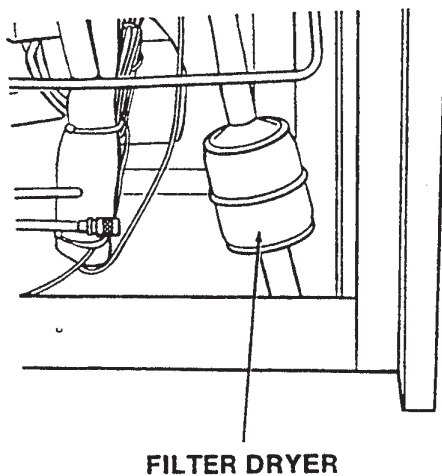

Figure 38. Filter Dryer
7. Replace filter drier using the appropriate brazing material (Figure 38).